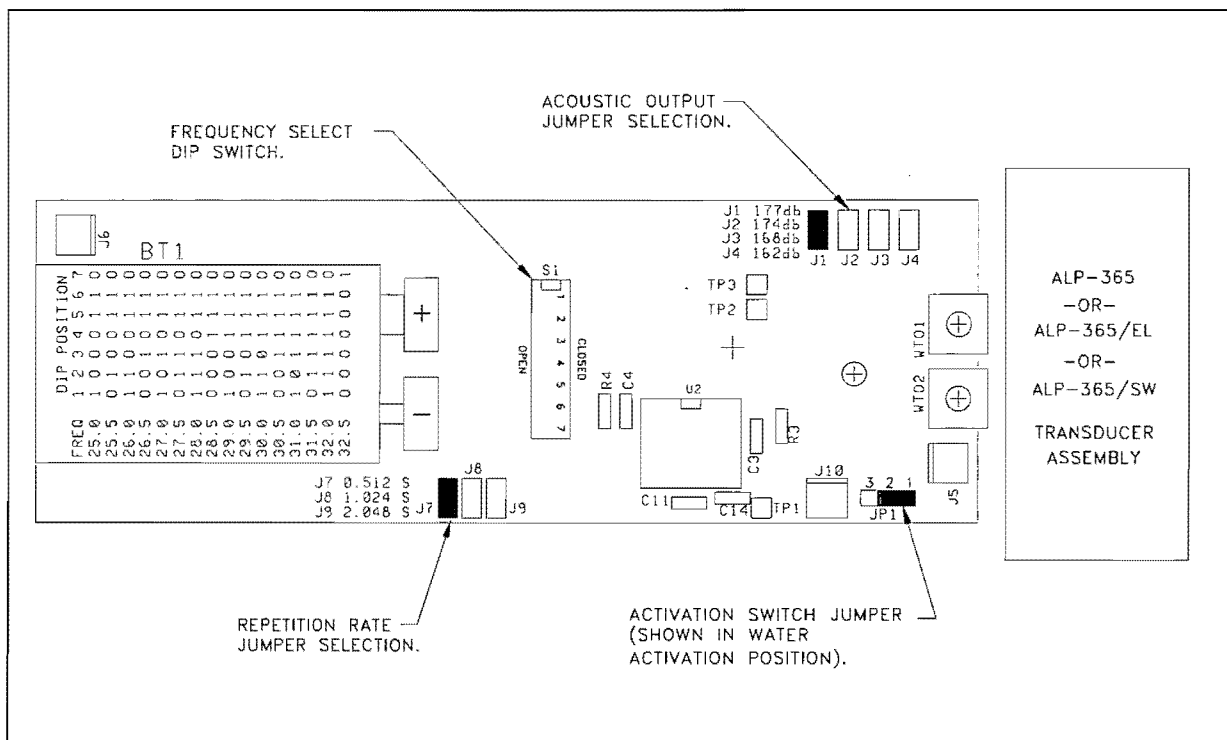

Figure 2 The ALP-365 Series Hardware Settings
- ◆ Note the location of the push-on-jumpers and switches for setting the operating parameters (Figure 2).
The ability to select the ALP-365 transmit frequency eases compatibility with specific receivers or differentiates the pinger from others deployed in the area. The frequency is set with the seven-switch DIP on the circuit board adjacent to the transducer (see Figure 2).
Selecting the acoustic output provides flexibility for multiple applications where low power, long life is needed or high power and shortened life is required. The pinger's acoustic output level is set by connecting one of the four jumpers (**J1** through **J4**) located at the end of the board near the transducer (Figure 2). Table 8 gives the resulting output for each push-on-jumper position.
Selecting the repetition rate provides the flexibility to increase the interval between pulses to extend the battery life or, if battery life is not an issue, decrease the interval for quicker receiver updates. The pinger's repetition rate is set by connecting one of the three jumpers (**J7** through **J9**) located at the edge of the board near the battery terminals (Figure 2). The resulting repetition rate for each jumper position is given in Table 9.
The ALP-365 Series Acoustic Locator Pingers have two modes of activation that are easily set by moving a push-on jumper located on **JP1** on the electronic assembly (Figure 2).
Battery/Switch: ALP-365 and ALP-365/EL - Activating the unit when the batteries are installed reduces the corrosion build up on the water-turn-on terminals for long term deployments. Verify the hard-wired jumper was installed in location **J10** on the board before selecting (Figure 2).